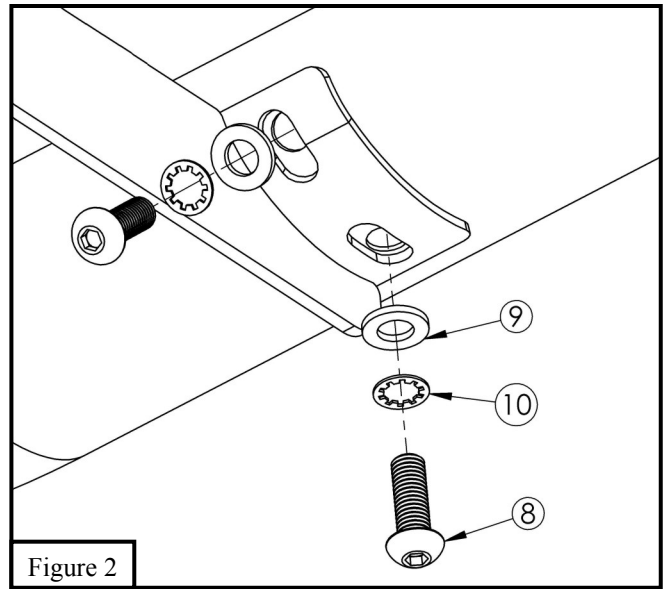

Figure 2
- Locate (2) step bar assembly and loosely secure onto the previously installed brackets using the provided M10 hardware. **See Figure 2.**